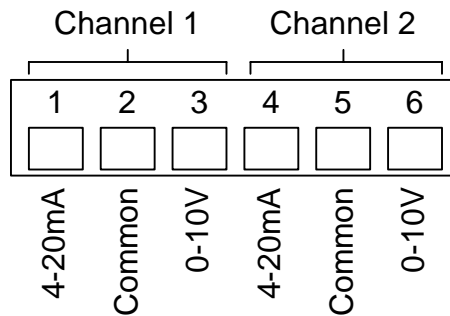

Figure 5 Option Card Terminal Wiring
- The type of output is selected by wiring the device to the proper terminals, see Figure 5.